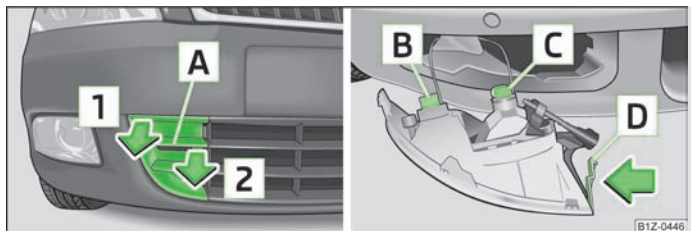

Fig. 167 Front bumper: Protective grille/removing the fog light
Bulb arrangement » Fig. 167.
- Insert your fingers into opening **A** » Fig. 167.
- Insert your hand into the opening left by the cap and press the lug **D** » Fig. 167 in the direction of the arrow.